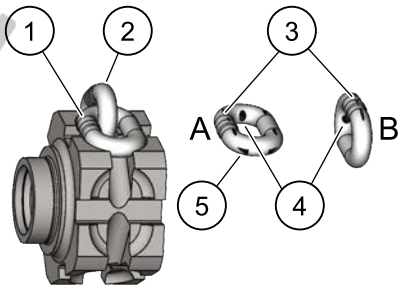

Figure 7. Chain Wear Areas
- 3. Slack the portion of the chain that normally passes over the lift-wheel (sprocket). Examine the chain links for wear (see Fig. 7). If the wire diameter anywhere on the link measures less than 90% of the nominal wire diameter, replace the chain.